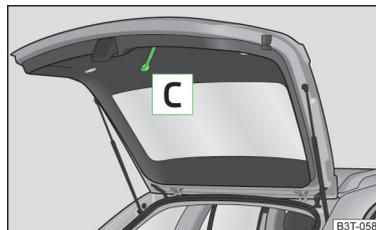

Fig. 41
- Pull the lid down with the handle **C** » Fig. 41 and close with a slight swing.